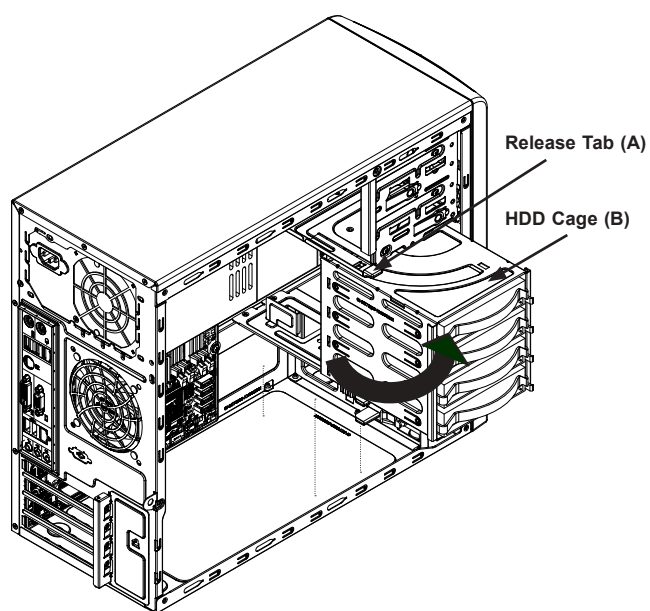
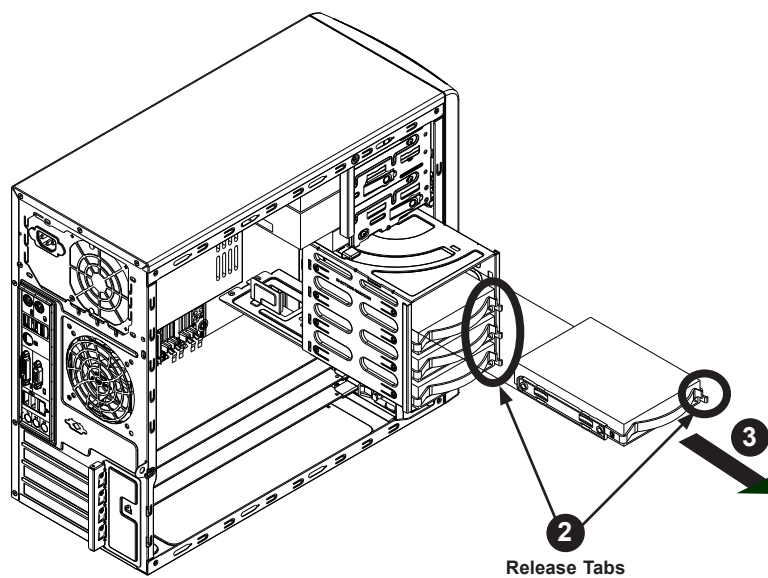

Figure 3-11. Rotating the Hard Drive Cage
Figure 3-12. Installing Drives in the Chassis
1. To rotate the hard drive cage, lift the release tab (A) as shown in Figure 3-11.
2. Rotate the hard disk drive cage (B) outward.
3. Press the release tab on the side of the hard drive carrier that is to be removed from the hard drive cage as shown in Figure 3-12.